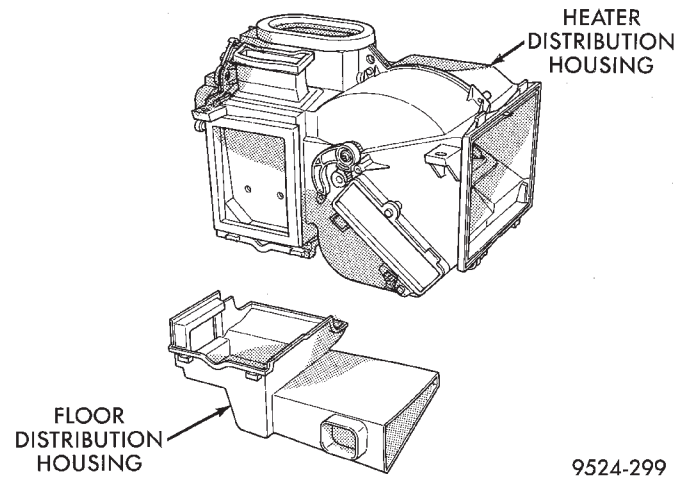

**Fig. 92 Lower Floor Distribution Housing**
- (22) Remove styrofoam seal around evaporator.
- (23) Remove lower heat/distribution housing clips. Remove housing (Fig. 92).